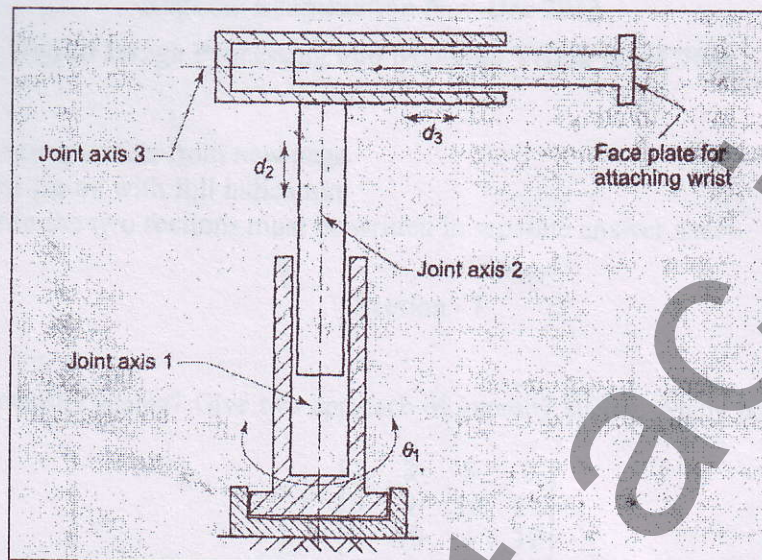

Fig. 3 Ques 5(b)
- (b) For the 3-DOF manipulator arm shown in figure 3, assign frames and obtain the joint-link parameter. Also, determine the position of the tool tip with respect to the base frame  $\{0\}$ . 7